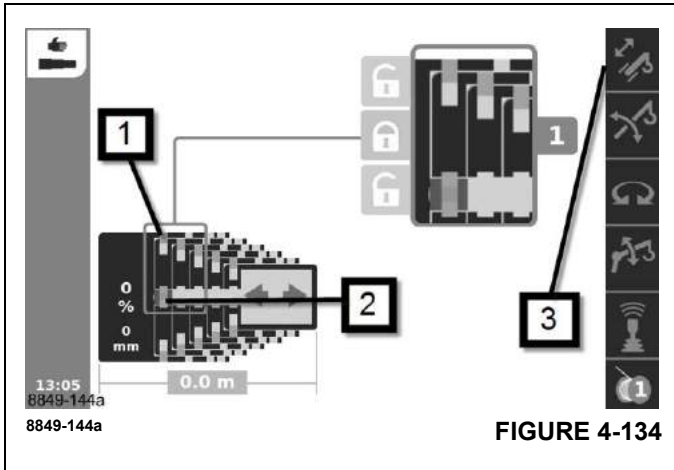

FIGURE 4-134
- Telescoping mechanism on – symbol (3), (Figure 4-134) green
- Telescoping cylinder locked – symbol (2) green
- Telescopic section unlocked – symbol (1) red